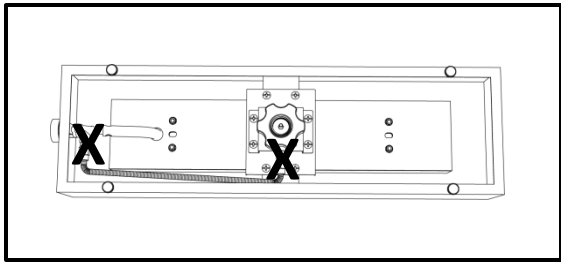

Figure 1
4. Please refer to diagram for proper installation (Figures 1 and 2). 5. If the burner/venturi tube does not rest flush to the orifice, as shown, please contact 1-855-600-9294 for assistance.
3. Apply the leak detection check solution on all "X" location (Figure 1 and 2)